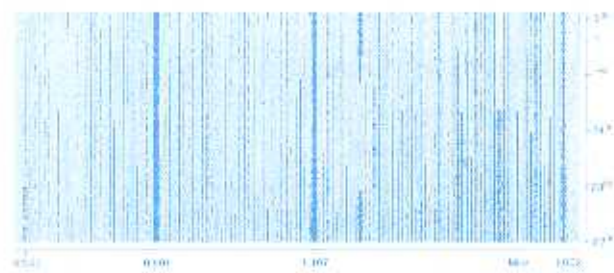
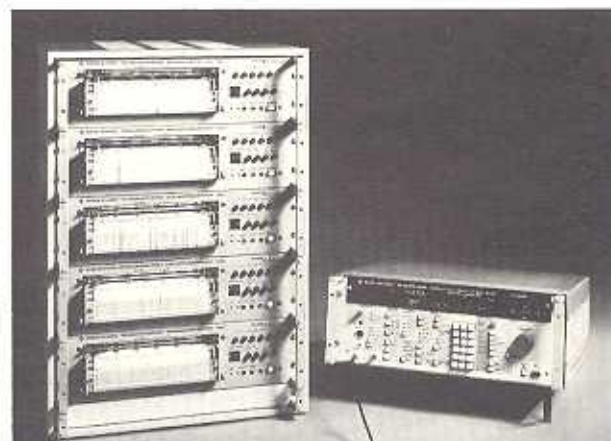

Fig. 12 Frequency-band occupancy over medium-wave band plotted on Radiomonitoring Recorder ZSG 3.
Fig. 13 ESH 3 with five Radiomonitoring Recorders ZSG 3 for scanning five different frequency bands and plotting the band occupancy.
- **Recording of frequency-band occupancy** as a function of time on the Radiomonitoring Recorder ZSG 3. When the signal level exceeds the preset threshold level (= MIN. LEVEL) the recorder traces a dash (Fig. 12). The ESH 3 can drive up to five Radiomonitoring Recorders ZSG 3 in a sequential cycle (Fig. 13).